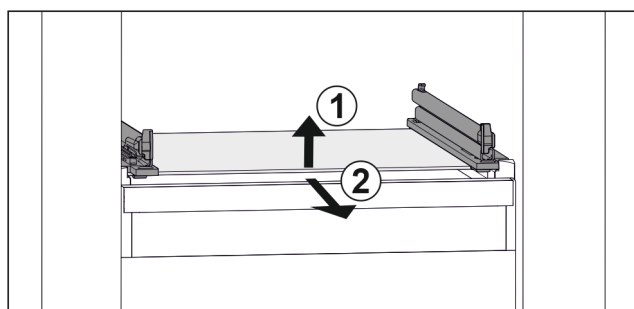

Fig. 78 Example illustration of glass shelf
- Lift glass shelf at the front. Fig. 78 (1)
- Remove glass shelf to the front. Fig. 78 (2)